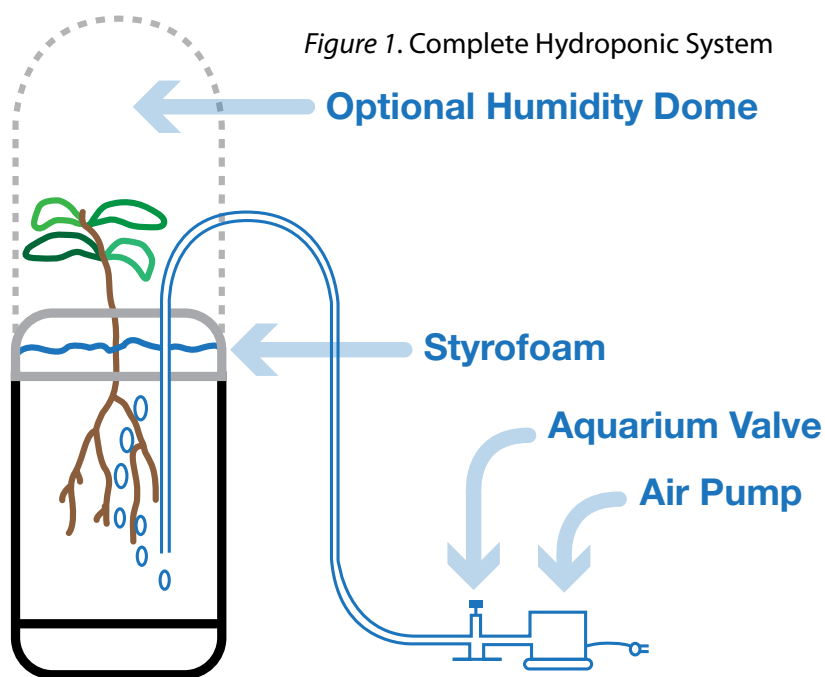

Figure 1. Complete Hydroponic System
10. Insert the styrofoam round into the soda bottle. Another soda bottle may serve as a humidity dome if desired. See Figure 1.